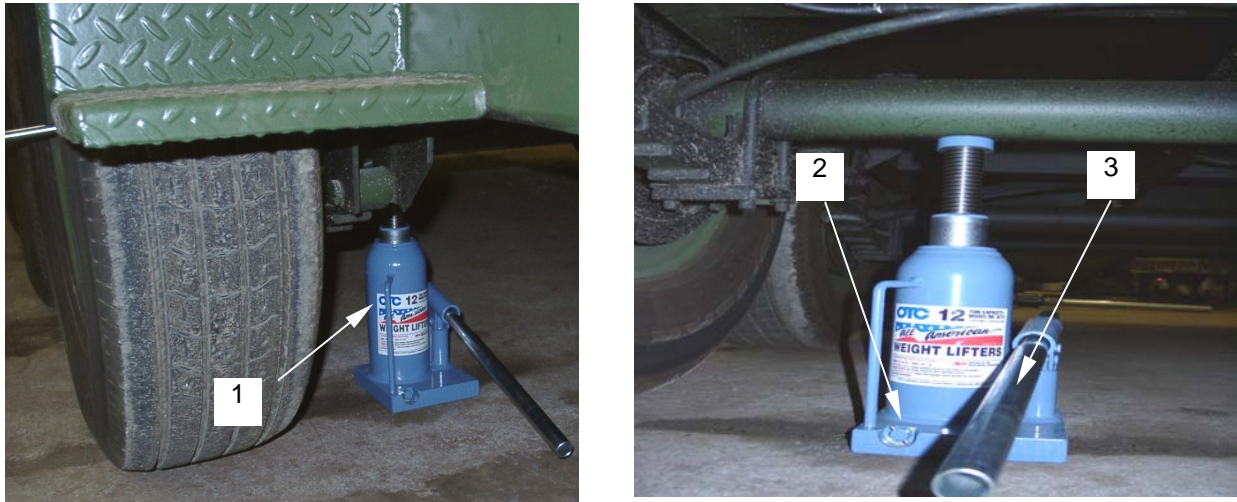

Figure 39. Jack Under Trailer
bbb. Raise axle with jack (**figure 39, item 1**) to remove dunnage.
ccc. To lower the jack, slowly open the release valve (**figure 39, item 2**) by turning it counterclockwise with the jack handle (**figure 39, item 3**).